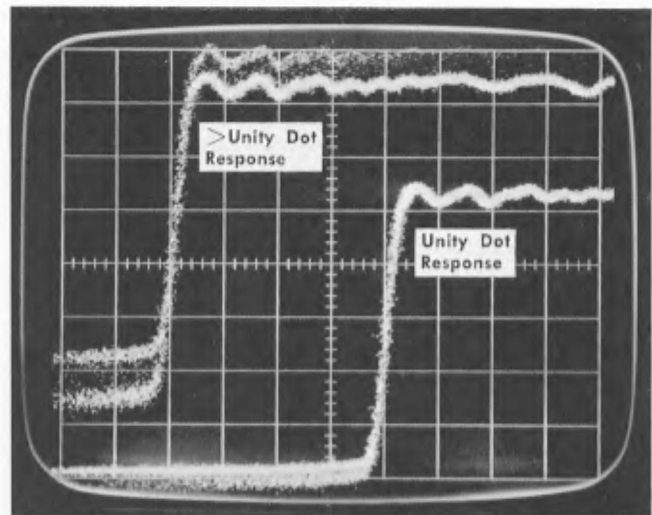

Fig. 5-9. Double exposure of Type S-2 Dot Response. (Type 3T2 operating at Before Trigger.)
g. Adjust the Type S-2 AVALANCHE VOLTS control and then the SNAP-OFF CURRENT control for unity dot response. (See Fig. 5-9.) The procedure is to set the dot response to unity (at the pulse top) with the AVALANCHE VOLTS control, and then to adjust the (head) SNAP-OFF CURRENT control to maximize loop gain. If this causes the dot response to be greater than unity, reduce it with the AVALANCHE VOLTS control and again maximize loop gain with the SNAP-OFF CURRENT control.